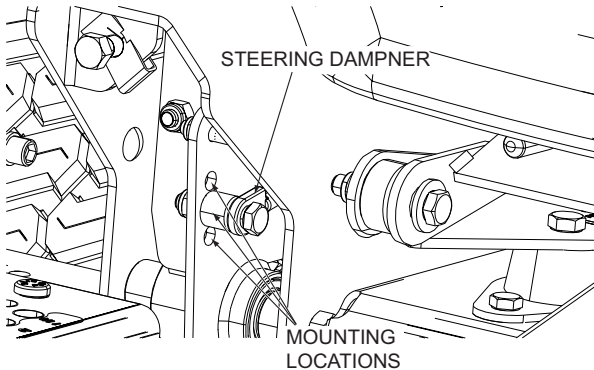

Figure 6-10. Steering Dampener Adjustment
1. **Top Mounting Location (Figure 6-10).** Used for the highest dampening affect on the steering controls.
2. **Middle Mounting Location (Figure 6-10).** Used for average dampening affect on the steering controls.
3. **Bottom Mounting Location (Figure 6-10).** Used for the lowest dampening affect on the steering controls.